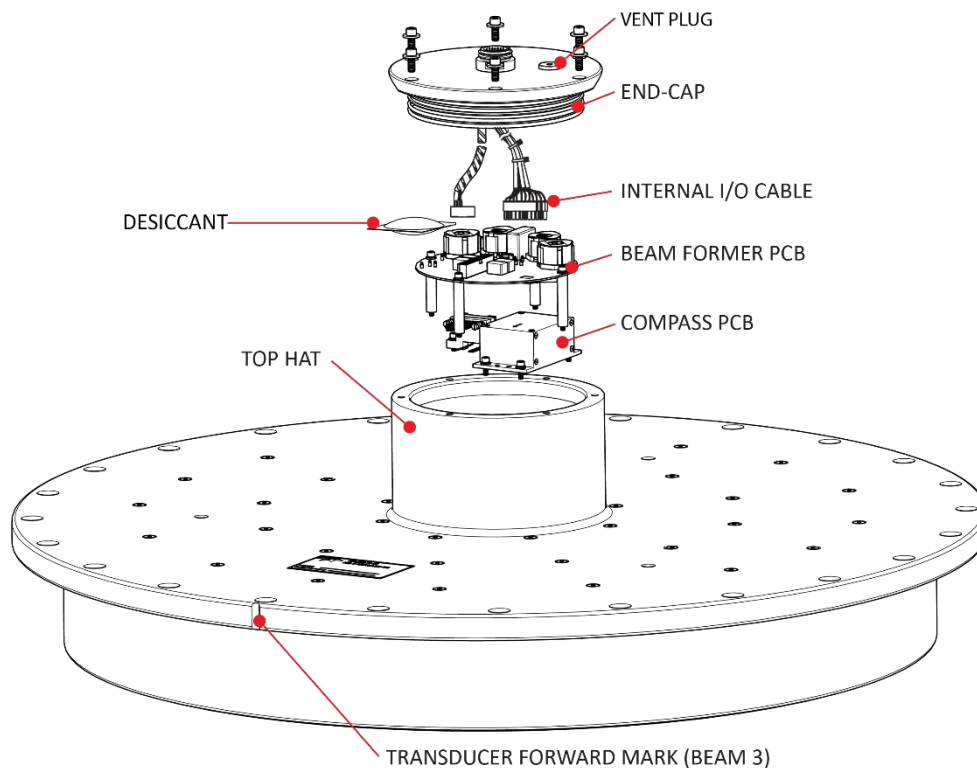
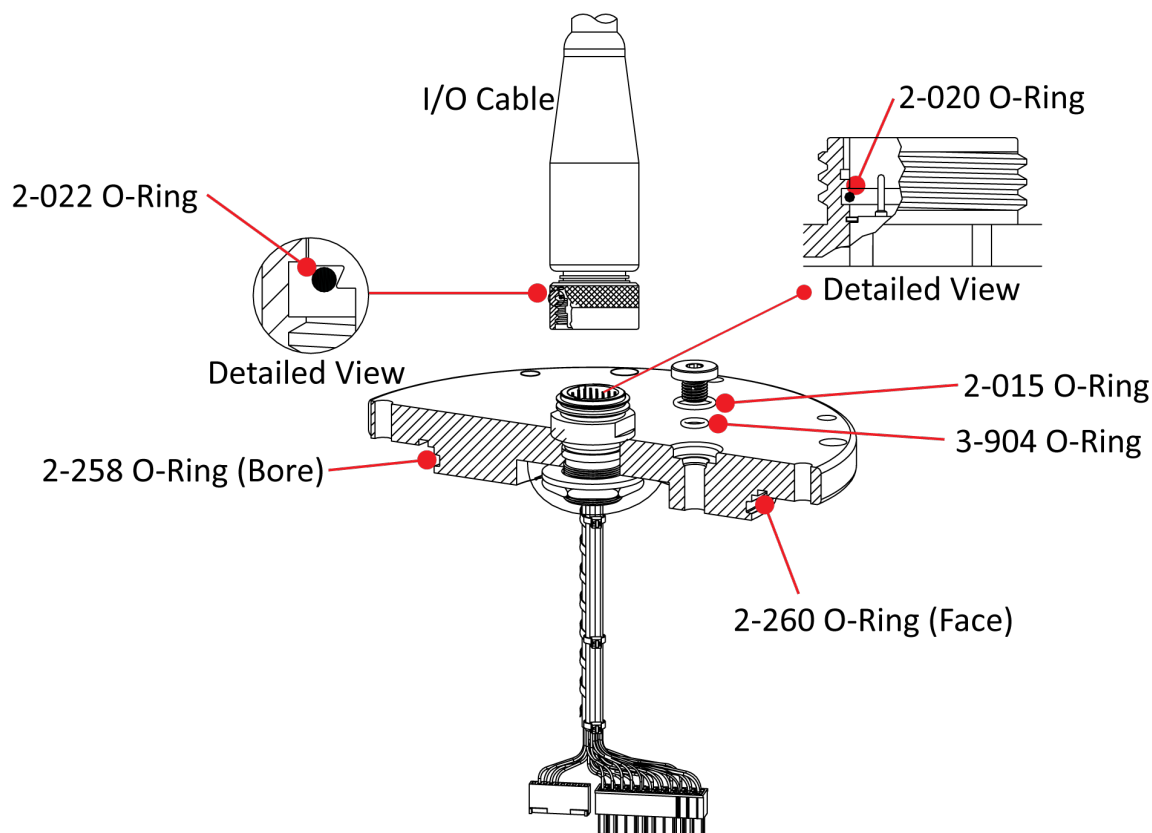

Figure 9. Transducer PCB Layout (38 kHz Round Transducer Shown)
Figure 15. Ocean Surveyor/Observer 150kHz O-ring Locations
3. Remove the end-cap or Top Hat (75 kHz) assembly on the transducer. The end cap is attached to the beamformer board and TCM2 compass (Ocean Observer system only) by a cable. The end-cap cannot be removed until the cable has been disconnected (see Figure 9 through Figure 15).